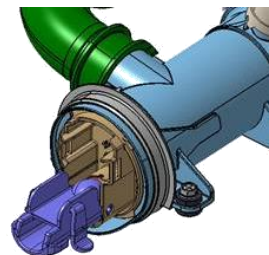

Fig. 4
- Arrange the closing lever as shown in Fig. 4.